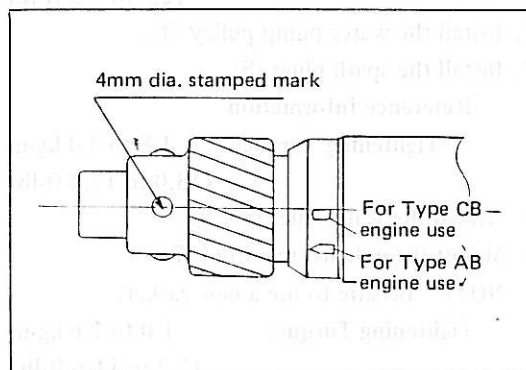

Fig. 3-97 Aligning Stamped Mark of Distributor
- (1) Set the No.1 piston at the top dead center at the end of the compression stroke.
- (2) Turn the distributor shaft, until the stamped mark located at the end of the distributor shaft is aligned with the recessed mark, as indicated in Fig. 3-97.